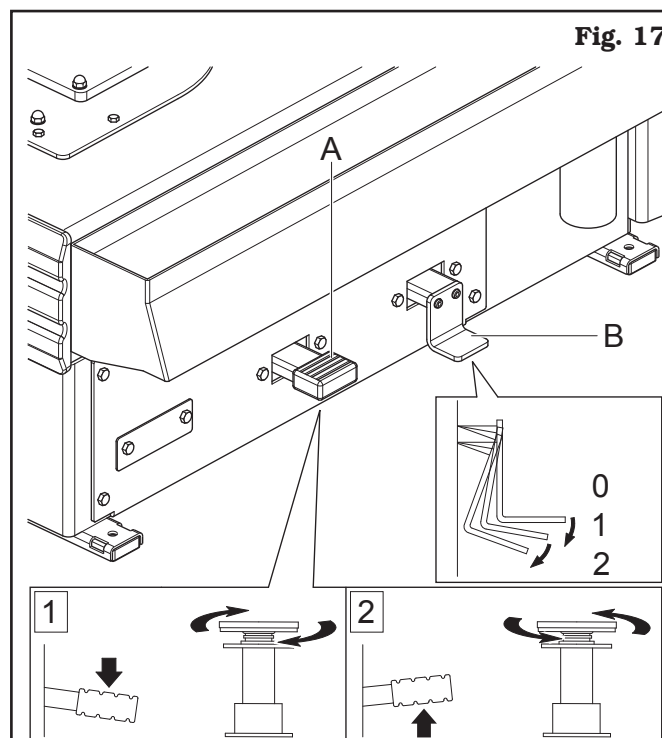
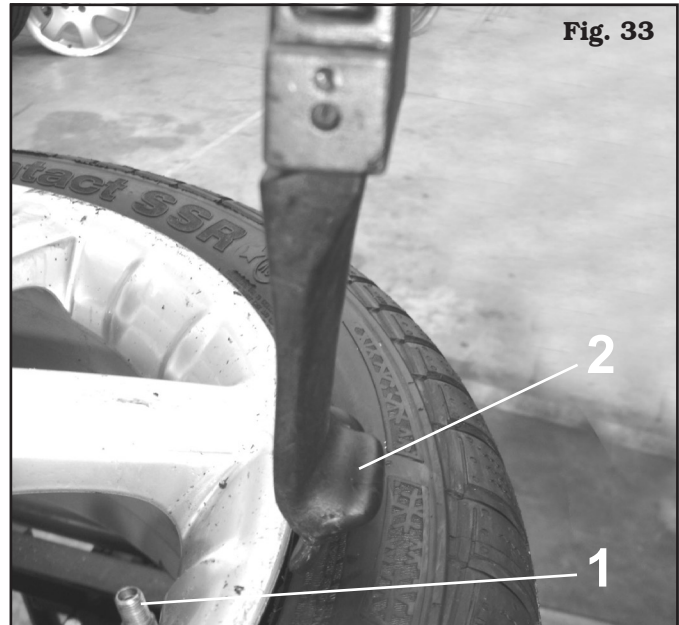

Fig. 17
Fig. 33
11.3 Pedalboard (see Fig. 17)
- Press the pedal (**Fig. 17 ref. A**) to rotate the wheel clockwise until the valve stem reaches "hour 1" position (**Fig. 33 ref. 1**).
- Position the upper tool (**Fig. 33 ref. 2**) just next the rim edge using the provided control (**Fig. 14 ref. H**) (↓) (upper tool descent) (see **Fig. 36**). While this phase is being carried out, stay just next to a zone in the tyre where bead breaking has been effectuated.